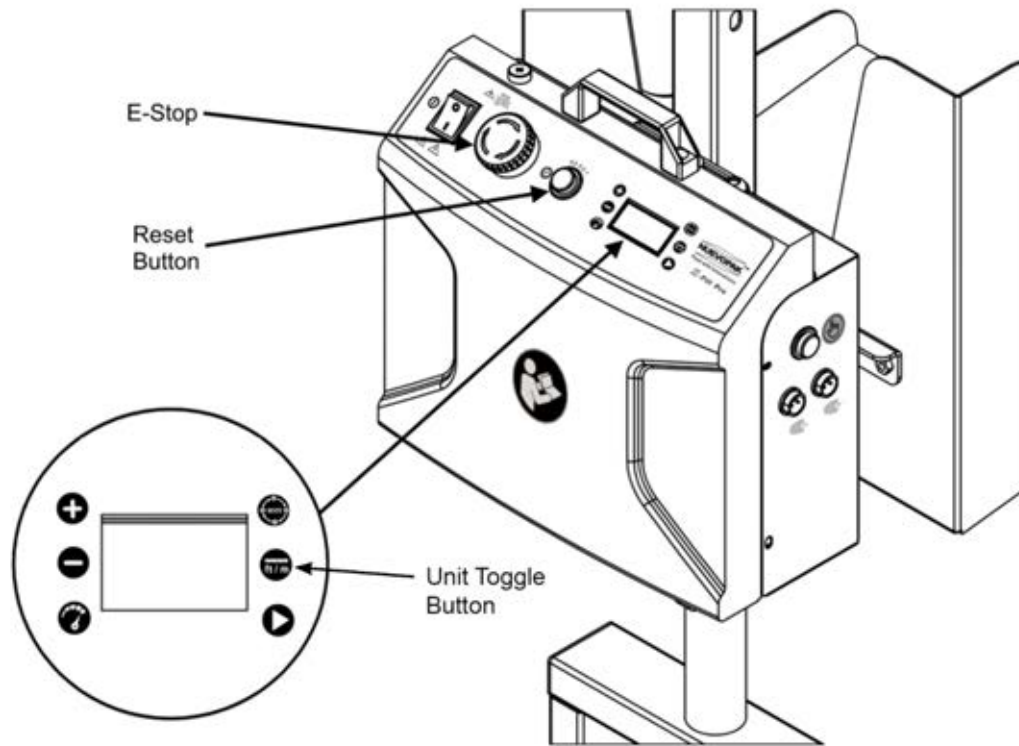

Figure 14 Units Setting
- ❖ **In Metric Units setting** (refer to Figure 14): The digits representing the length of the string of void fill paper are in **meters**. For example, if the display shows 0.5, the preferred string of void fill paper is set to 0.5m [+/- 10%].
- ❖ **In Imperial Units setting** (refer to Figure 14): The digits representing the length of the string of void fill paper are in **inches**. For example, if the display shows 04, the preferred string of void fill paper is set to 40 in. [+/- 5%].
1. Switch the **I/O Main Switch** to [I] (**On**) position (refer to Figure 14).